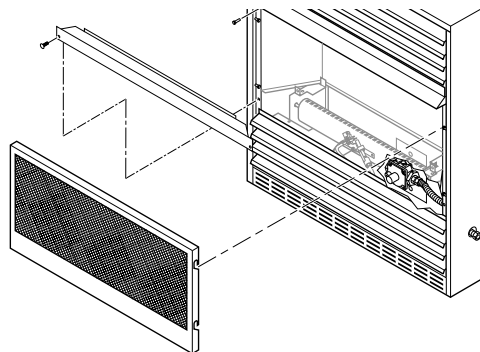

Figure 18 - Removing Branch Support From Fireplace
2. Remove screws that attach branch support to fireplace (see Figure 18). Carefully lift up branch support and remove from fireplace (see Figure 18).
4. Apply pipe joint sealant lightly to male threads of gas connector attached to flexible gas line (see Figure 18). Connect flexible gas line to flexible gas line attached to gas regulator of fireplace (see Figure 18).